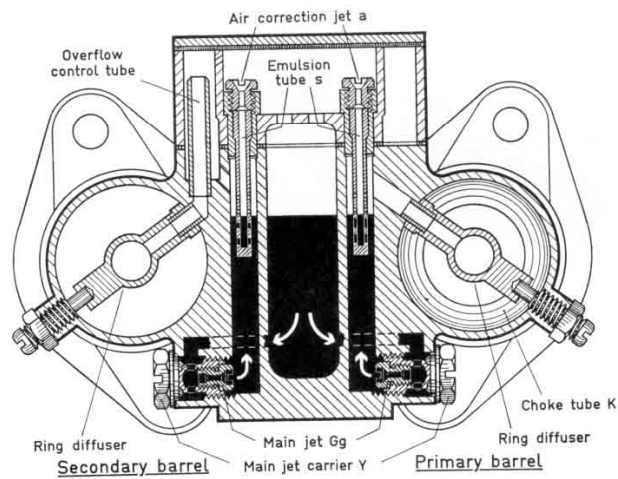

Fig. 27 Jet assembly of the 44 PHH carburetor
e) New jet Assemblies (figs. 27 and 28)